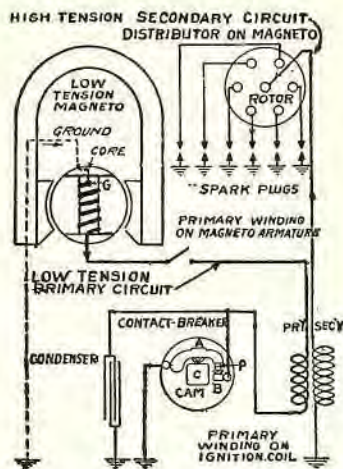
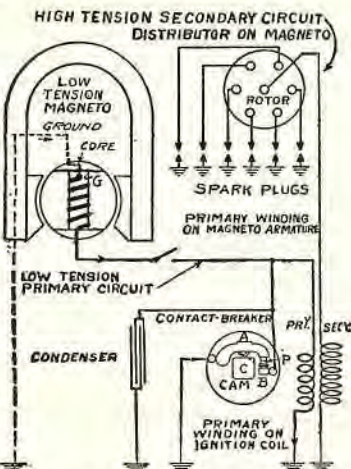

Fig. 38. Low-tension magneto connected in series with the primary winding of a high-tension coil.
Fig. 39. Low-tension magneto connected with the primary winding of a high-tension coil, but the interrupter or contact-breaker is "shunted" across the circuit.
If the low-tension magneto is used in "series" with a high-tension coil (Fig. 38), the spark is desired at the spark-plug point. It will then be necessary to have a condenser to absorb the current passing through the primary winding (PRY) of the coil from the magneto at the time of the break at
interrupter or contact-breaker points and also to assist in demagnetizing the core of the high-tension coil, so that the lines-of-force built up around the coil core will collapse quickly and induce a high voltage in the secondary winding (SECY) of the high-tension coil. Thus a very high voltage will be produced at spark-plug points (Fig. 38).
If the low-tension magneto is connected with a high-tension coil, so that the interrupter or contact-breaker is "shunted" across the circuit, instead of being in "series" with it (as in Fig. 38), the action would be slightly different as shown in Fig. 39.
Note in Fig. 38 that the lines-of-force in the coil core were made to collapse, to produce the high-tension spark, whereas in Fig. 39, the lines-of-force are built up in the coil core to produce the high-tension spark. This was possible in this instance, because there was no current flowing in the primary winding of the coil, and its core was completely demagnetized. Thus the lines built up rapidly, generating a high induced voltage in the secondary. This system is the one in general use where a low-tension magneto is used with a high-tension coil.
Magneto circuit: from (A) to switch blade (W), through connection (C) to primary wire of coil, through ground (G1) and (G3) to armature. The breaker points (P), it will be noted, are connected or shunted across the magneto primary circuit, similar to what is shown in Fig. 39, page 252. The circuit proper is through the armature and circuit breaker, and the coil primary winding receives only the kick of the armature (extra current) when the contact points open, as explained on page 252. It will be noted that the battery circuit is open at the switch.